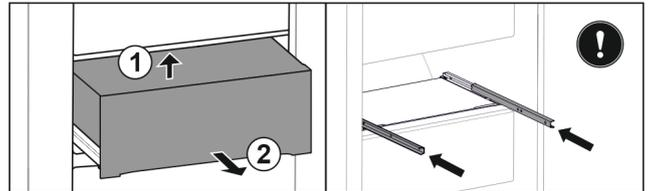

Fig. 124
- ▶ Lift drawer from below at the back. Fig. 124 (1)
- ▶ Remove drawer to the front. Fig. 124 (2)